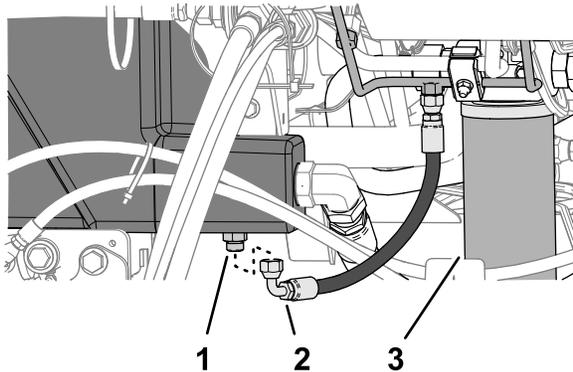

Figure 105
2. Place a large drain pan under the straight fitting (Figure 105) of the hydraulic tank.